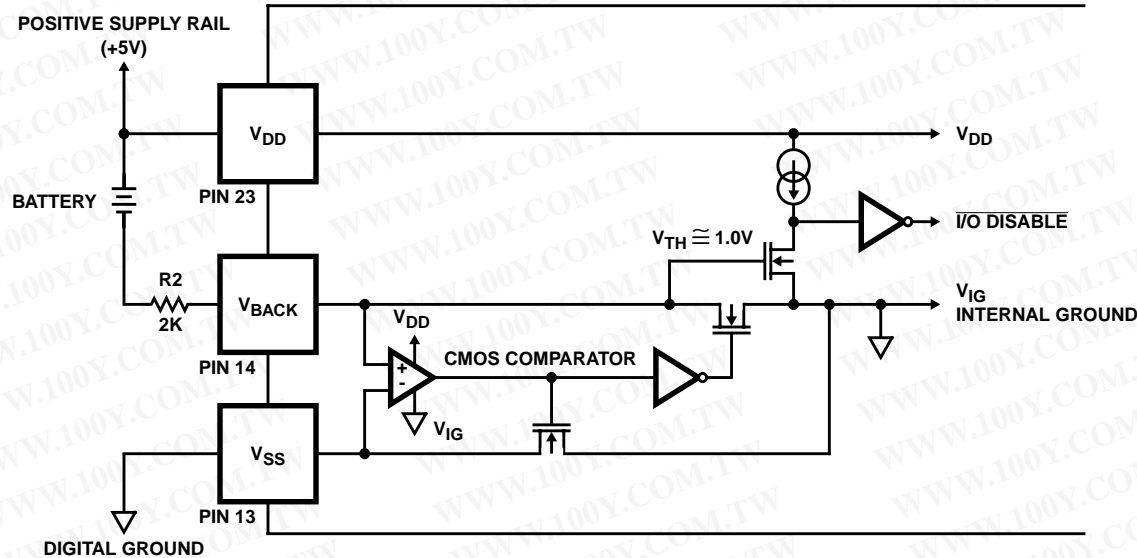

FIGURE 6. SIMPLIFIED ICM7170 BATTERY BACKUP CIRCUIT
The ICM7170 contains an on-chip power down detector that eliminates the need for external components to support the battery-backup switchover function, as shown in Figure 6. Whenever the voltage from the  $V_{SS}$  pin to the  $V_{BACKUP}$  pin is less than approximately 1.0V (the  $V_{TH}$  of the N-channel MOSFET), the data bus I/O buffers in the ICM7170 are automatically disabled and the chip cannot be read or written to. This prevents random data from the microprocessor being written to the clock registers as the power supply is going down.
The new load configuration (Figure 6) allows these two conditions to be met independently. The two load capacitors, C1 and C2, provide a fixed load to the oscillator and crystal. C3 adjusts the frequency that the circuit resonates at by reducing the effective value of the crystal's motional capacitance, C0. This minute adjustment does not appreciably change the load of the overall system, therefore, stability is no longer affected by tuning. Typical values for these capacitors are shown in Table 5. C1 and C2 must always be greater than twice the crystal's recommended load capacitance in order for C3 to be able to trim the frequency. Some experimentation may be necessary to determine the ideal values of C1 and C2 for a particular crystal.
- 4. EXTERNAL BATTERY BACKUP** - The ICM7170 may be placed on the same power supply as battery-backed up RAM by keeping the ICM7170 in its operational state and having an external circuit switch between system and backup power for the ICM7170 and the RAM. In this case  $V_{BACKUP}$  should be pulled up to  $V_{DD}$  through a 2K resistor. Although the ICM7170 is always "on" in this configuration, its current consumption will typically be less than a microamp greater than that of standby operation at the same supply voltage (See Note 9). Proper consideration must be given to disabling the ICM7170s and the RAMs I/O before system power is removed. This is important because many microprocessors can generate spurious write signals when their supply falls below their specified operating voltage limits. NANDing CS (or WR) with a POWERGOOD signal will create a  $\overline{CS}$  (or  $\overline{WR}$ ) that is only valid when system power is within specifications. The POWERGOOD signal should be generated by an accurate supply monitor such as the ICL7665 under/over voltage detector. An alternate method of disabling the ICM7170's I/O is to pull  $V_{BACKUP}$  down to under a volt above  $V_{SS}$  ( $V_{SS} < V_{BACKUP} < 1.0V$ ). This will cause the ICM7170 to internally disable all I/O. Do not allow  $V_{BACKUP}$  to equal  $V_{SS}$ , since this could cause oscillation of the battery backup comparator (See Figure 6).  $V_{BACKUP} = V_{SS} + 0.5V$  will disable the I/O and provide enough overdrive for the comparator.